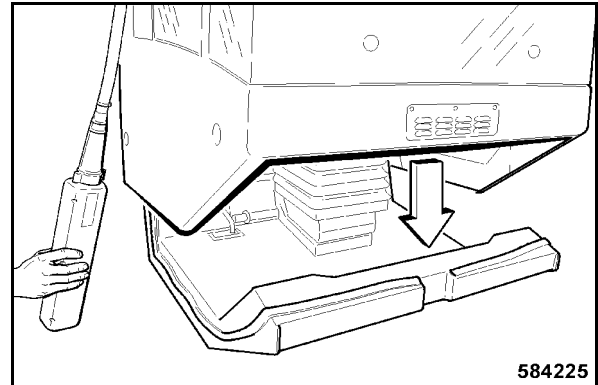

Fig. 209
- Slowly lower the cabin vertically to the operator's stand (Fig. 209).